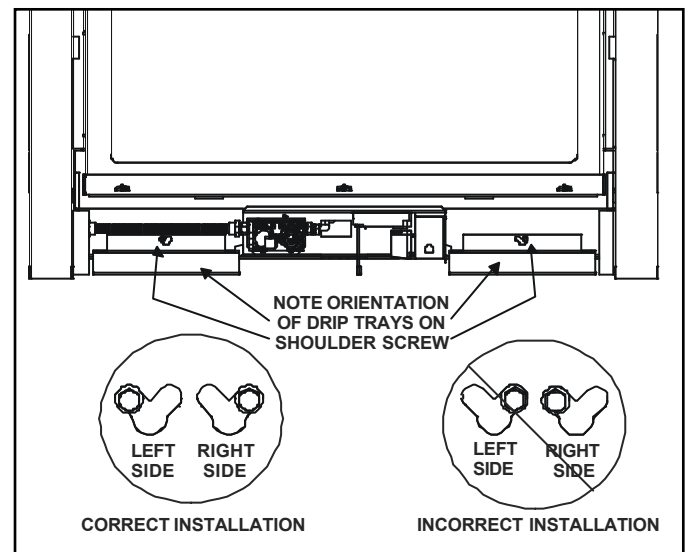

Figure 4.5 Drip Tray
- Note orientation of drip trays on shoulder screw before removing. Replace drip trays in same orientation as shown in Figure 4.5.